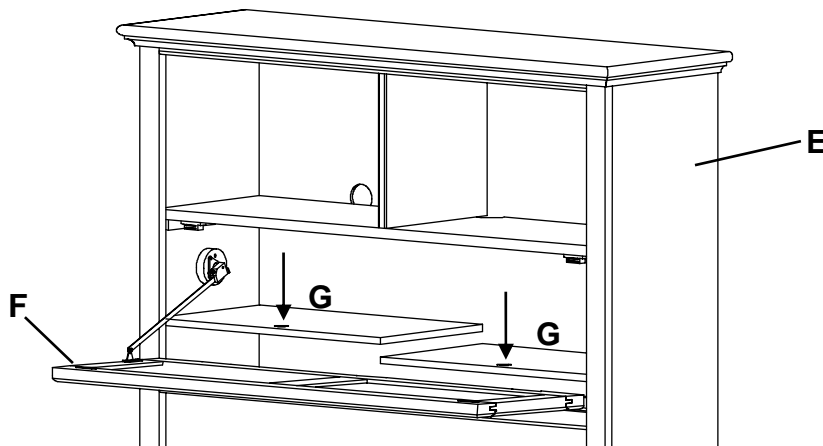

Fig. 15
15. Unwrap the False Bottoms (G) and place them on top of the rails in the Headboard Assembly (E). Make sure the finger holes face forward as shown in Figure 15. After you have placed your electronics inside the cubbies, use the Wire Clips (J) on the underside of the cubbies to secure the wires. Close the door tightly making sure the magnetic catches and plates securely touch.